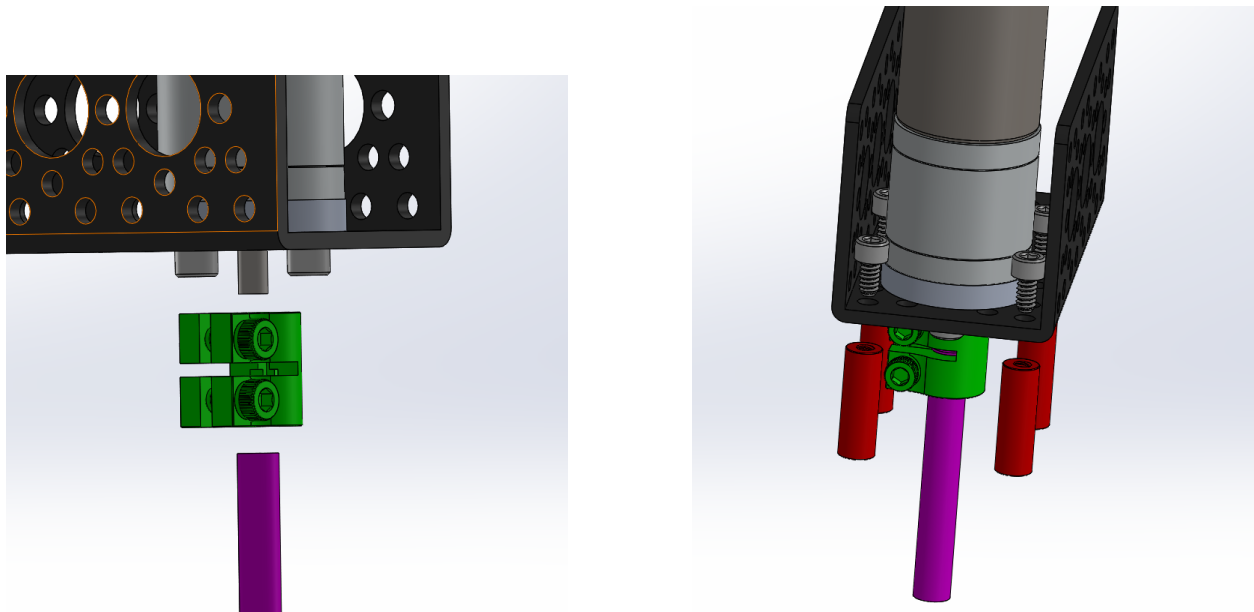

Figure 3: Corner Steering Step 2
2. **Shaft Coupler/Standoffs Attachment:** Attach the motor shaft to the 0.25 inch D-shaft **S15** using the shaft coupler **S23**. Also take the 0.75inch long standoffs **T5** and attach them to the bottom of the channel centered around the motor using screws **B1** as shown in Figure 3.